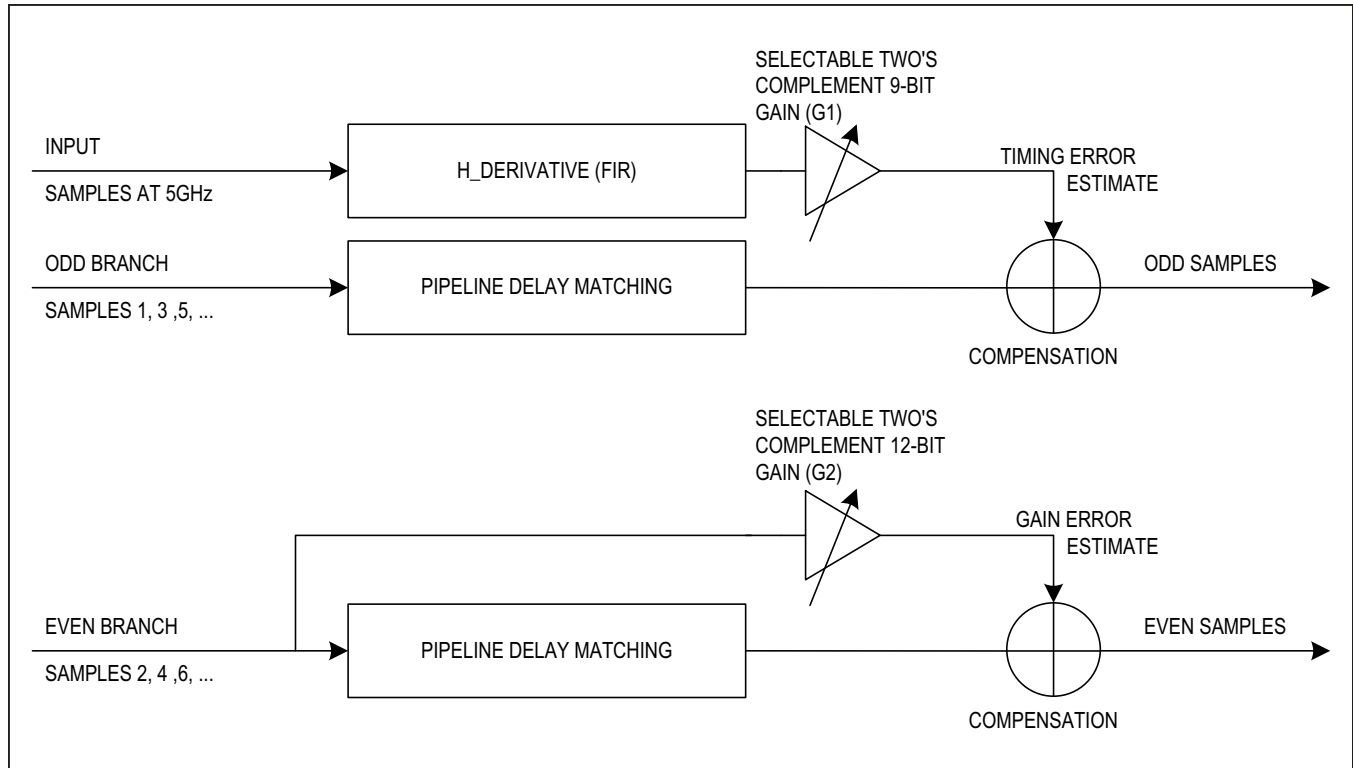

Figure 22.  $f_{DAC/2} - f_{OUT}$  Correction Block
- **DAC Interleaving-Error Compensation:** Since the DAC is updating on both clock edges, every other sample has an error resulting from the clock duty cycle being different by 50%. The DAC can also have a gain error in every other sample. The DAC interleaving compensation can correct for these two errors. By optimizing for these errors, the  $f_{DAC}/2 - f_{OUT}$  image is minimized. The block diagram of the DAC interleaving-error compensation block is shown in Figure 22.
programmable parameters, ranges, and resolution. Review the Register Descriptions section for programming information. The DAC interleaving compensation shown in Figure 22 contains two paths. Interleaving compensation adjusts for gain errors of every other sample, caused by either actual DC gain error or by clock duty-cycle error. The uppermost data path in this figure corrects for clock duty-cycle error. A duty-cycle error causes an error in the boundary between two samples that is proportional to the step size. In the uppermost data path, the step size is extracted and then every other step is extracted and scaled. The phase-correction filter aligns the phase of the correction signal with the transition between two adjacent samples. The lowermost data path extracts every other sample of the input signal and scales the input signal. When added into the signal path, a gain adjustment for every other sample results.